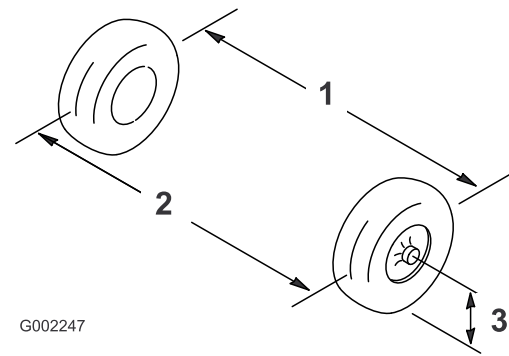

Figure 89
2. Measure the distance between of the front tires at the axle height at the front and rear of the front tires (Figure 89).